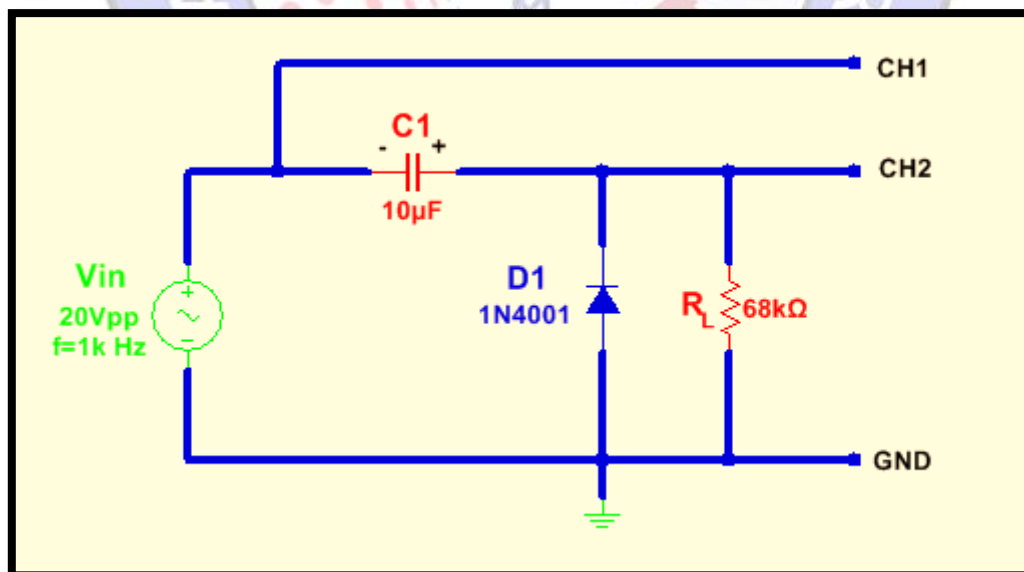

Figure 11: Practical Unbiased Positive Clamping Circuit
5. Connect the clamping circuit shown in Fig.11, and apply a 10Vpp sinusoidal input waveform with frequency of 1 kHz at the input. Display and sketch the input and the output waveforms.